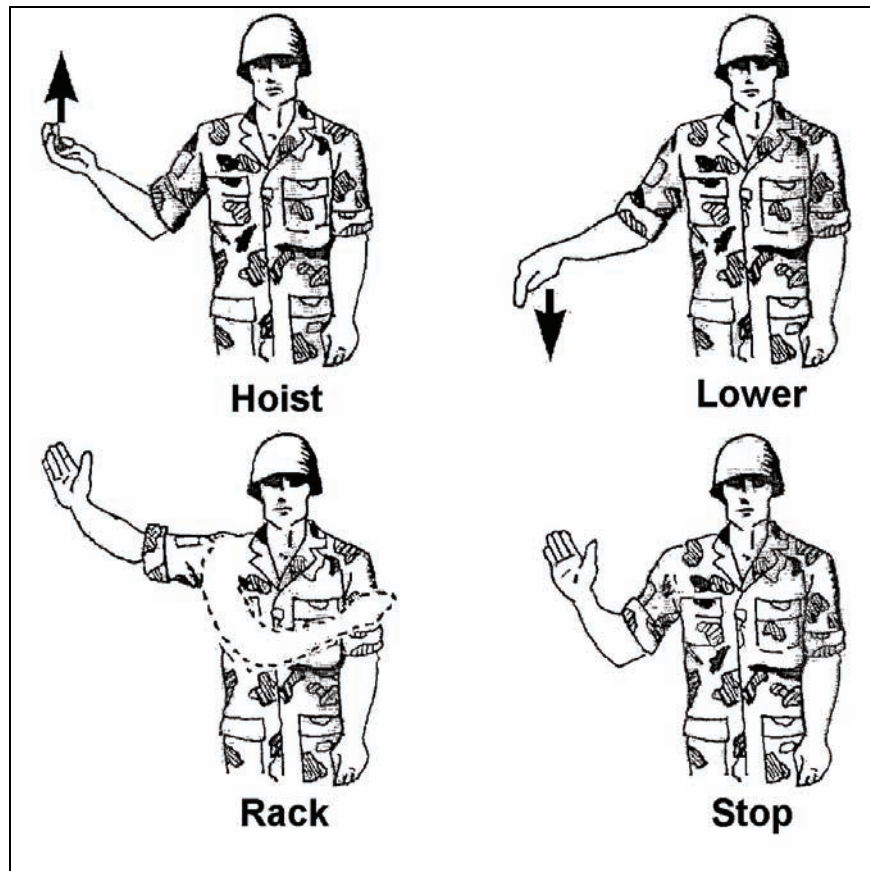

Figure 3-61. Signals for One-Winch Operation
3. Give the four proper hand signals for a one-winch operation (see Figure 3-61).